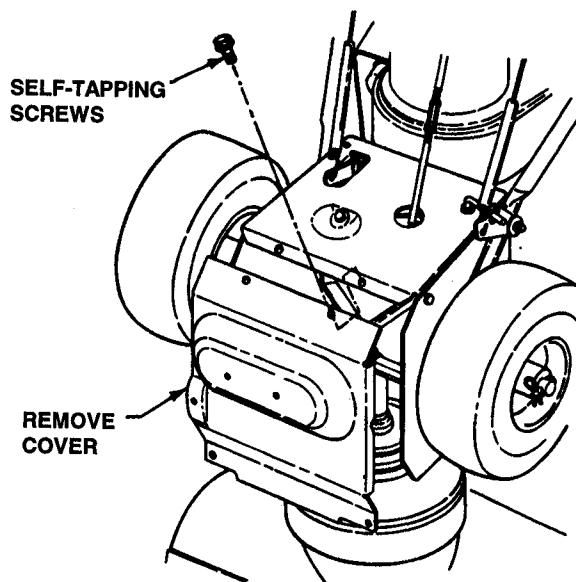

FIGURE 4.5
6. Tilt machine forward to gain access to drive system area. Secure machine in the tilted position to prevent tipping over. Remove drive system cover plate. See Figure 4.5.
1. Tilt machine forward to gain access to drive system area. Secure machine in the tilted position to prevent tipping over. Remove drive system cover plate. Refer to Figure 4.5.